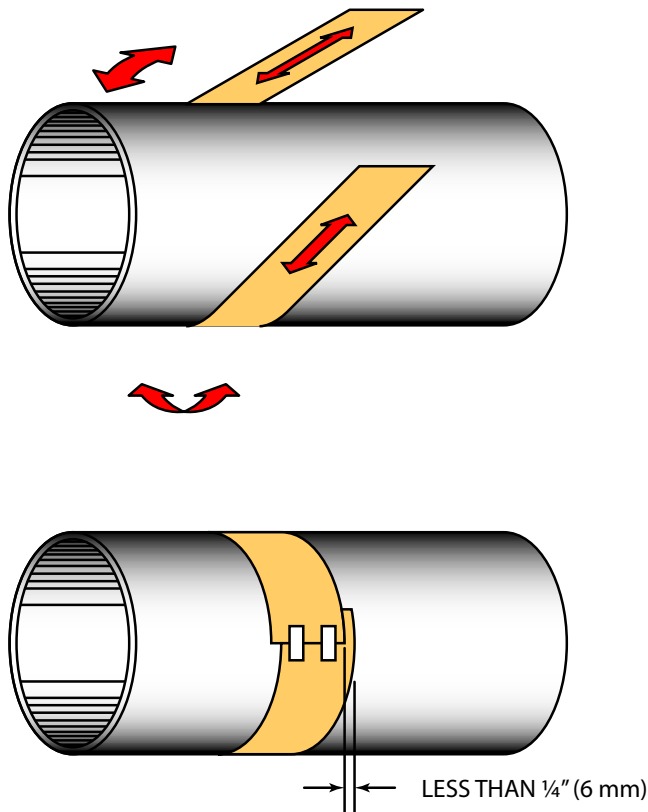

FIGURE 2.11 - PAPER TEMPLATE ALIGNMENT
- 1) Wrap the paper around the pipe in the manner shown in **Figure 2.11**. Align the paper ends to within ¼ inch (6 mm).